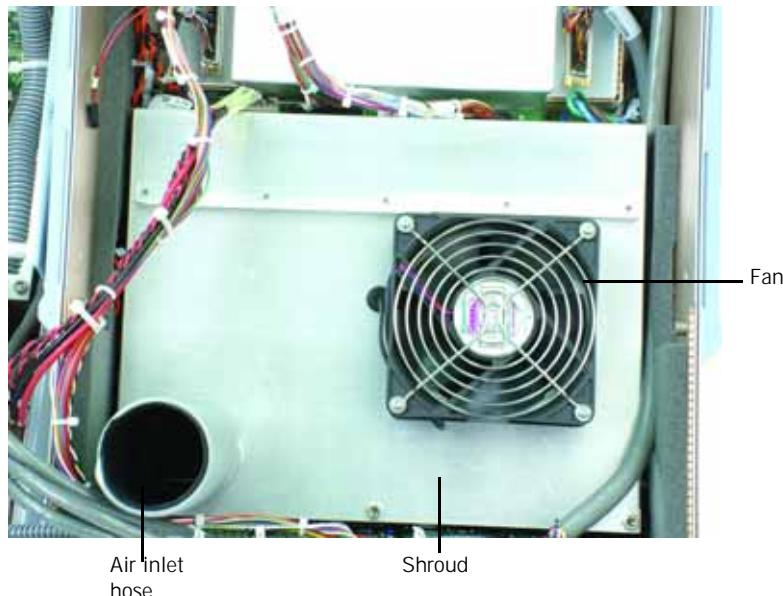

Figure 10-19: Power Supply Fan and Shroud
2. Remove the air inlet hose from the power supply shroud (Figure 10-19).
Remove the fan from the shroud by removing four screws (Figure 10-19). Reverse removal steps to install.